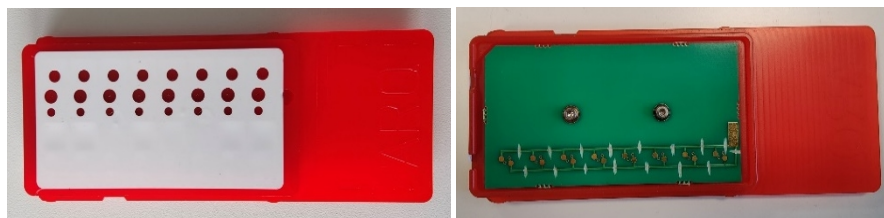

Figure 40 An ARQ plate (front and rear)
- 1. Locate the ARQ plate** The QPatch Compact is delivered with a special Artificial Reference QPlate (ARQ) plate. It is red, features a green plate on its back and has a barcode starting with "032", see Figure 40.